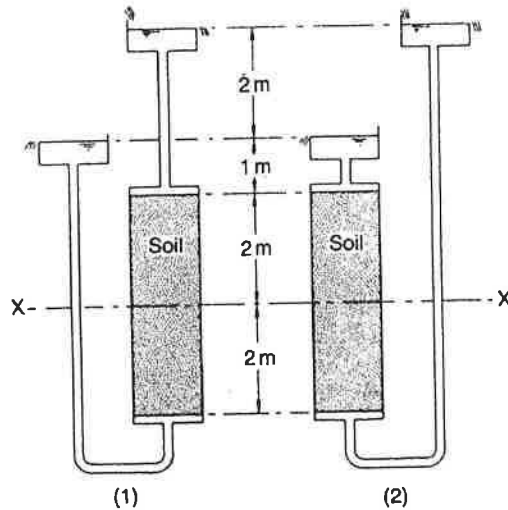

Figure 3
For the seepage situations shown below in **Figure 3**, determine the effective stress on plane X-X for both the situations (1) and (2). Assume $\gamma_{sat} = 20 \text{ kN/m}^3$